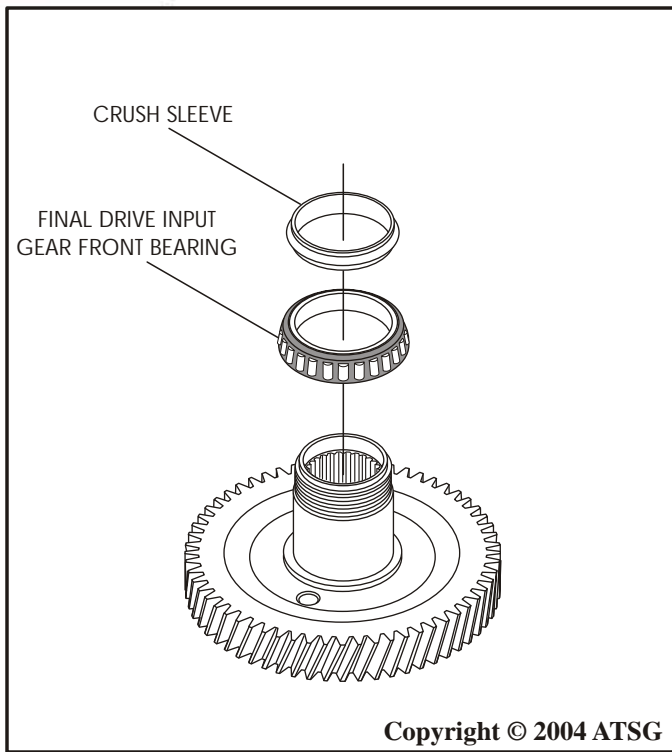

Figure 116
13. Remove and discard the final drive input gear crush sleeve, as shown in Figure 116.
14. Remove and replace the tapered roller bearing, as shown in Figure 116, using the proper tools and hydraulic press to remove and replace.